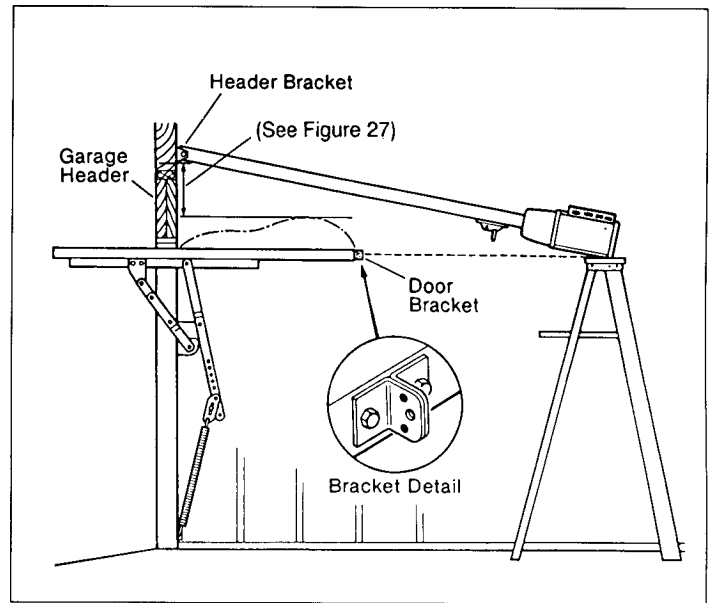

Figure 31
Step 67: Raise power head end of operator until high-rise point of door clears channel assembly by at least one inch, or until the power head is level with the top edge of the door when it is in the open position (see Figure 31). Temporarily maintain that position (on a ladder, for example) until the hanger material on the operator head is permanently mounted.
The door bracket and door arm assemblies for trackless doors are shown in Figures 31 and 32.
Step 69: Install door bracket on center line as close as possible to the top edge of the door, (see Figure 31). If it is not possible to put the door bracket on the top edge of the door, install the door bracket as close as possible to the top edge.